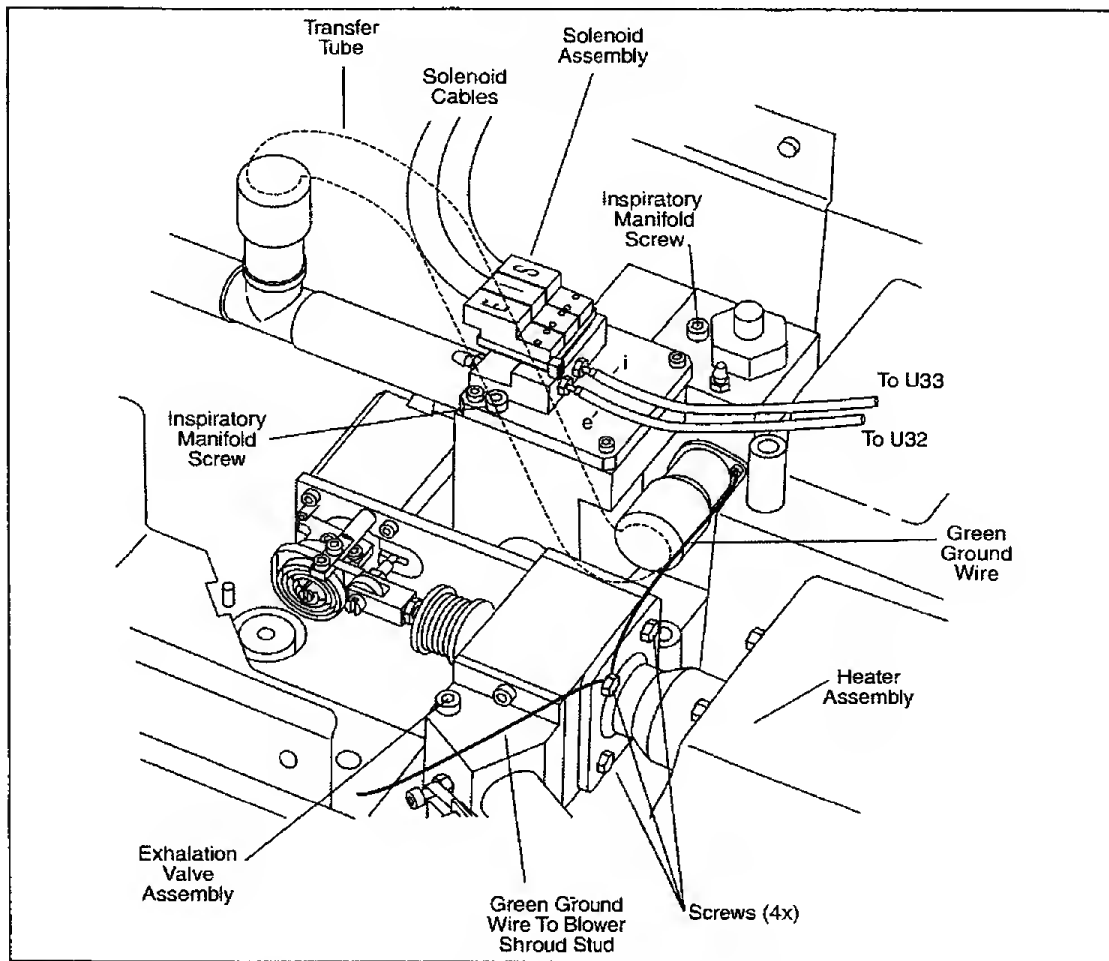
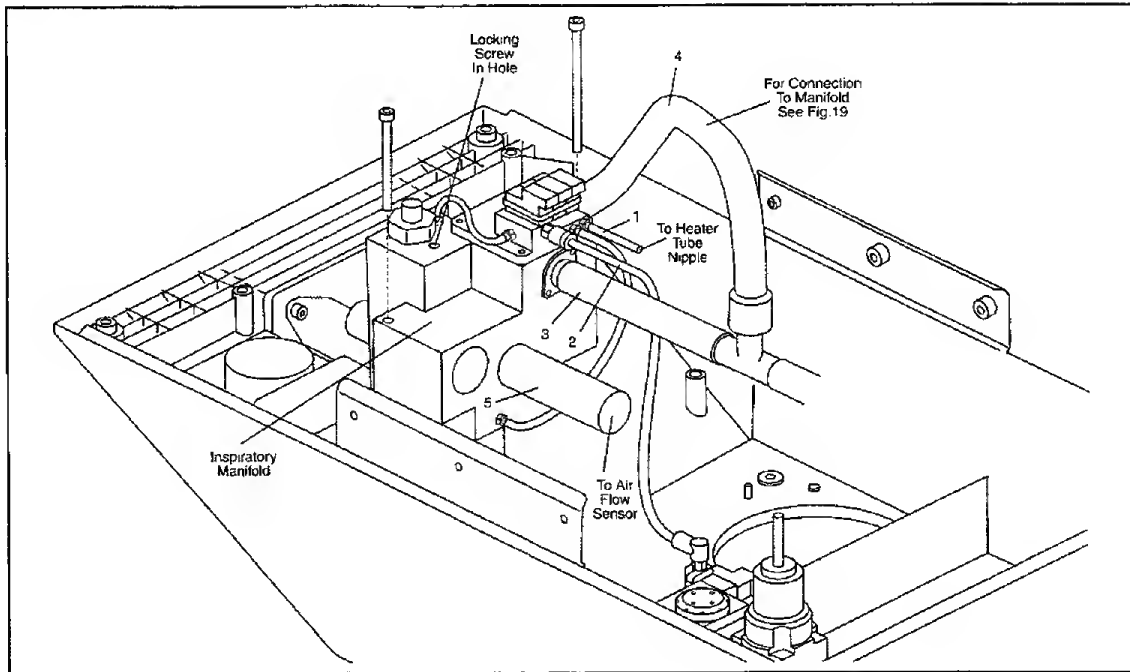

Figure 7-19: Exhalation Valve and Filter Heater Assembly
Figure 7-22: Inspiratory Manifold Assembly
(Refer to Figure 7-19)
(Refer to Figure 7-19 unless specified otherwise)
6. Remove four screws holding the Exhalation Valve to the Heater Assembly (see Figure 7-19).
(Refer to Figure 7-22 unless specified otherwise)
4. Disconnect the tubes from the Exhalation (E) and Inspiratory (I) solenoids (see Figure 7-19).
6. Disconnect three cables (SAFETY SOL), (INSP SOL) and (EXHAL SOL) from the Solenoid Assembly (see Figure 7-19).
7. Remove two screws holding the inspiratory manifold (see Figure 7-19).
8. Remove the screw holding the green ground wire to the inspiratory manifold (see Figure 7-19).
10. Remove the silicon transfer tube # 5 from the inspiratory manifold inlet (see Figure 7-19).
2. Install the inspiratory assembly using two screws. Engage a few threads but do not tighten at this time (see Figure 7-19).
5. Fasten the inspiratory manifold by tightening the two screws (see Figure 7-19). Torque to 5 in-lbs.
6. Connect the green ground wire to the inspiratory manifold using the screw previously removed (see Figure 7-19).
11. Insert the inspiratory port completely into the inspiratory manifold and fasten by tightening the locking screw (see Figure 7-22). Pull on the inspiratory outlet to ensure it does not come out or rotate.
12. Reconnect the Exhalation (E) and Inspiratory (I) tubes to their respective solenoids (see Figure 7-19)
13. Reconnect the silicon tubes 1 – 5 to the inspiratory manifold (see Figure 7-22).
14. Reconnect the cables labeled EXHAL SOL, INSP SOL and SAFETY SOL (see Figure 7-19).
2. Reconnect six tubes and three cables (SAFETY SOL, INSP SOL, and EXHAL SOL) to the Solenoid Assembly, **then remove the tape** (see Figure 7-19 and Figure 7-22).